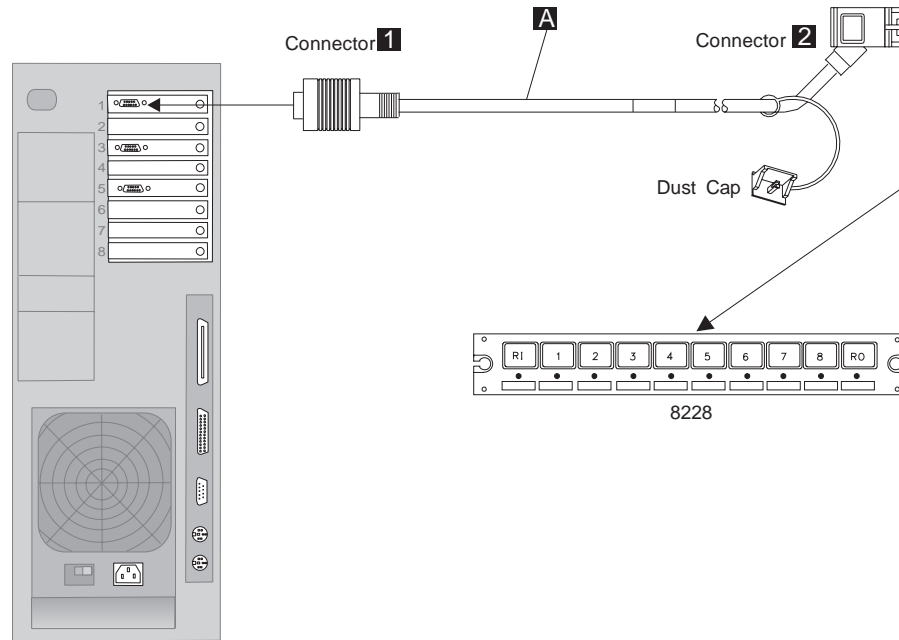
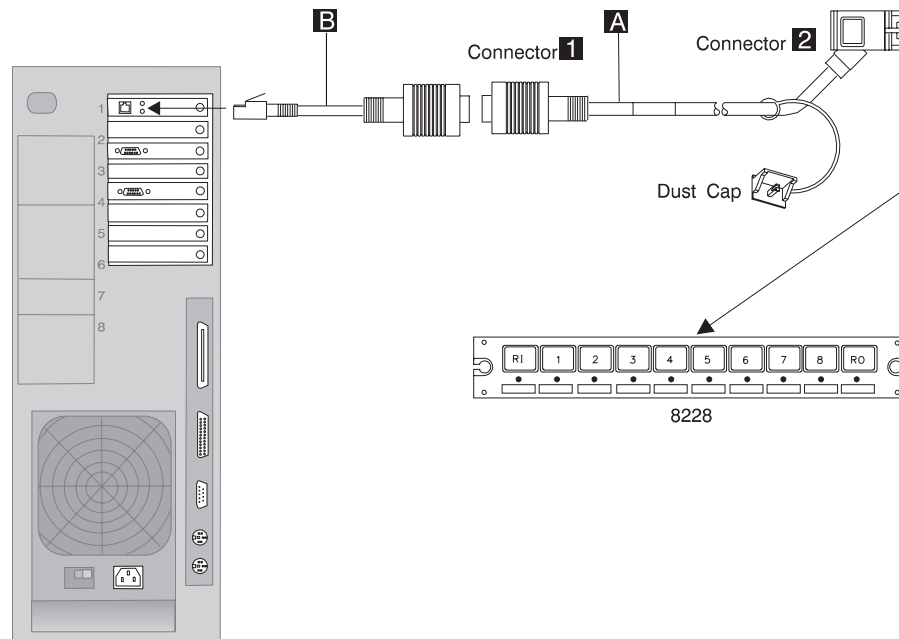

Figure 1-62. Connecting the 8228 to the Service Processor (Sub D connector)
Figure 1-63. Connecting the 8228 to the Service Processor (RJ45 connector)
7. ____ Depending on the service processor connector (Sub D or RJ45), refer to Figure 1-62 on page 1-55 and go to step 7a or refer to Figure 1-63 on page 1-55 and go to step 7b on page 1-55.